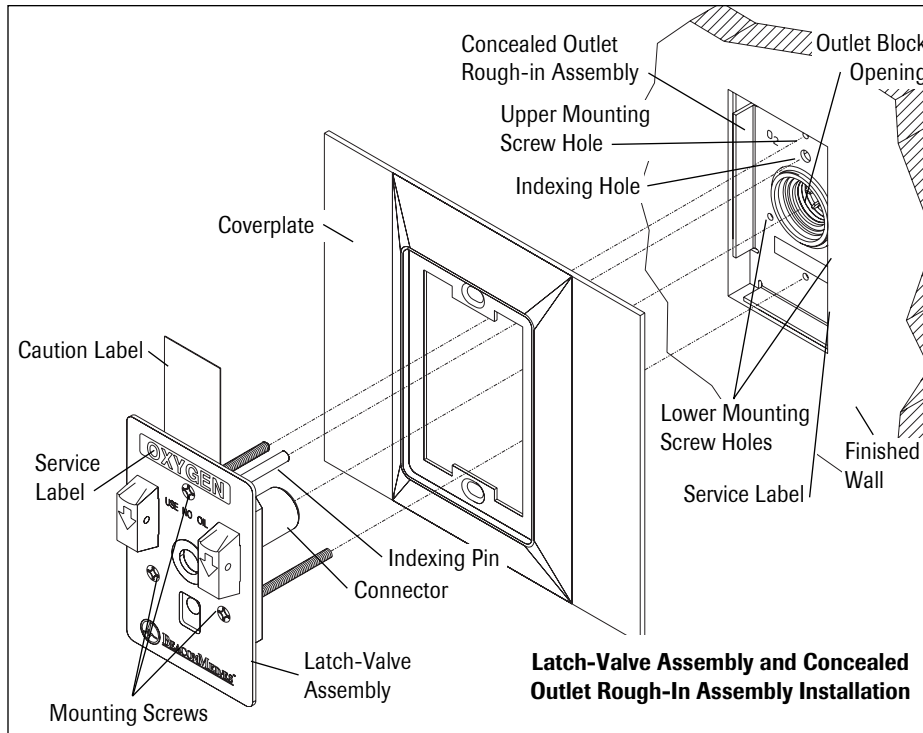

Figure 1
3. Installing the coverplate and latch-valve assembly (Figure 1):